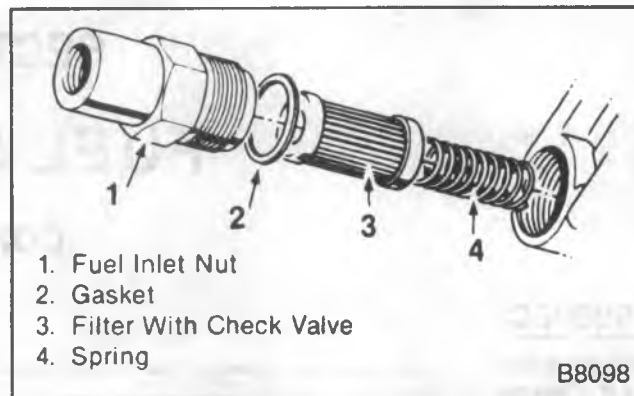

Figure 2—Carburetor Fuel Filter
Internal fuel filters are located in the inlet fitting of the carburetor (figure 2). The filter element (3) is placed in the inlet hole with the gasket (2) surface outward. A spring (4) pushes out against the element and compresses the gasket (2) against the fuel inlet nut (1). A check valve is also built into the filter element.
↔ Remove or Disconnect (Figure 2)
↔ Install or Connect (figure 2)